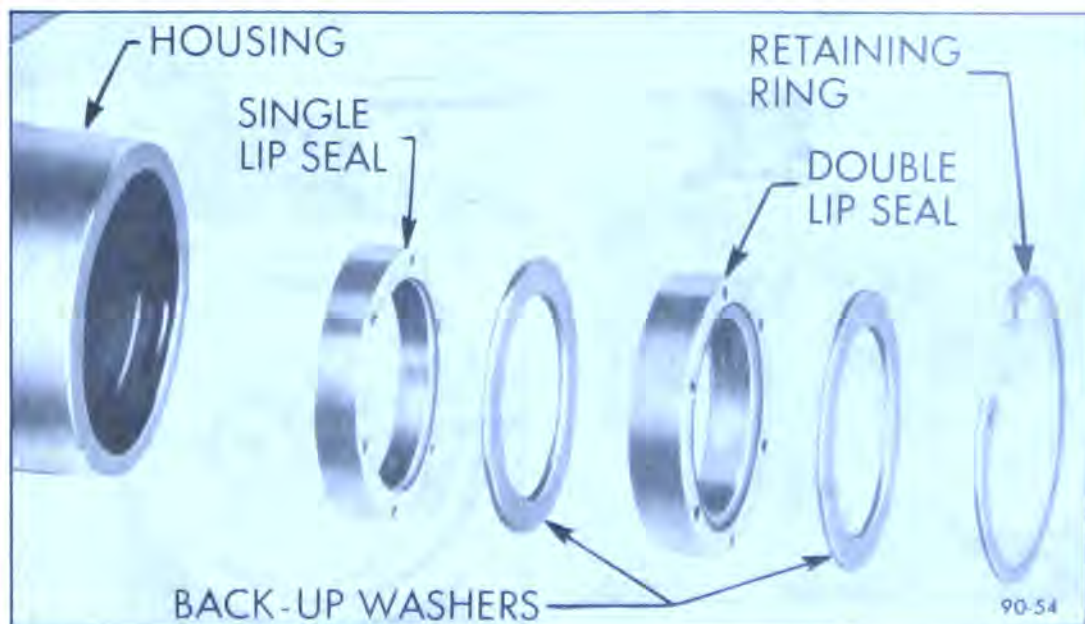

Figure 90-50 Pitman Shaft Seals
2. Lubricate new pitman shaft seals with power steering oil. Install the inner, single lip seal in bore first, then a back-up washer. See Figure 90-50. Using tool J-6219, drive the seal and washer in far enough to provide clearance for the outer seal, back-up washer and retaining ring. See Figure 90-51. The inner seal must not bottom on the counterbore. Install the